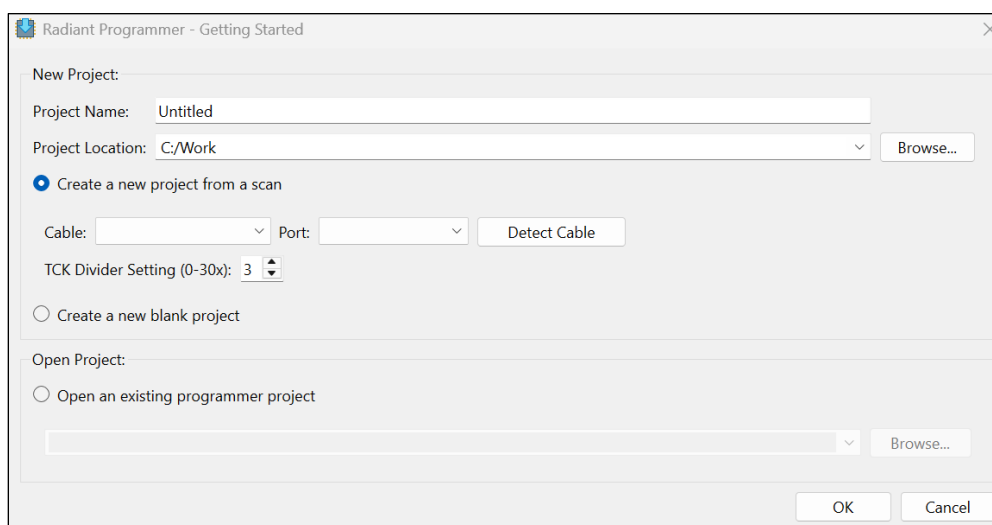

Figure 6.10. Creating a New Project from a Scan
1. Create a new project using the Lattice Radiant Programmer software. In the **Getting Started** window, input the **Project Name** and **Location** as shown in Figure 6.10.